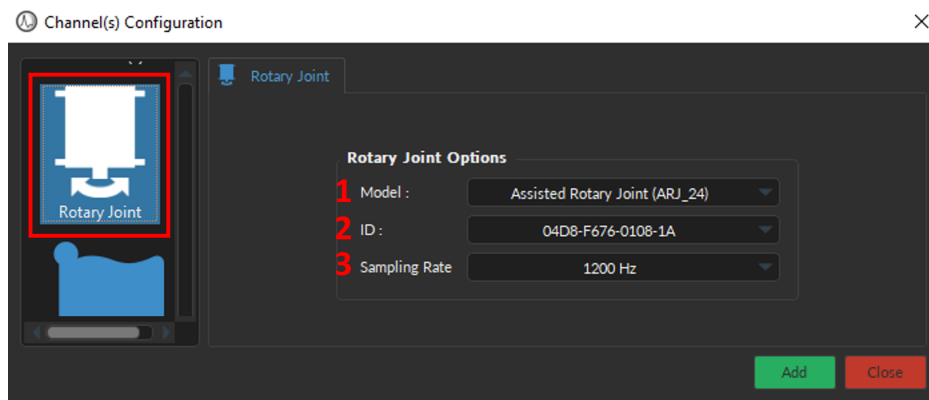

Figure 10.34: Rotary Joint channel
1. The **Model** (Fig. 10.34, 1) displays the type of rotary joint available. Assisted rotary joints (specifically ARJ24), when connected to the computer, will be automatically detected. Compatible devices include:
2. The **ID** (Fig. 10.34, 2) displays the serial number of the rotary joint in question, which identifies the proper device when more than one rotary joint of the same model is connected to the computer.
3. The **Sampling Rate** (Fig. 10.34, 3) specifies the number of data points per second that are saved in the .doric file. The **Sampling Rate** can range between 10 Hz - 1200 Hz.